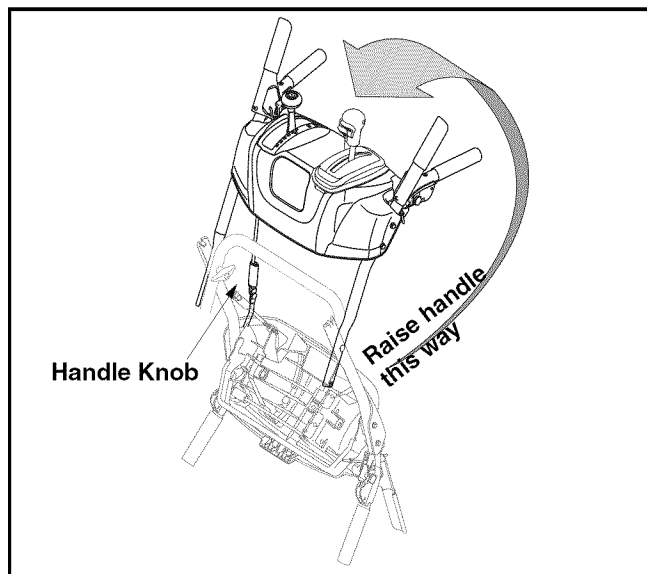

Figure 1
1. Raise the upper handle assembly in the direction shown in Figure 1. Align the upper handle with the lower handles.
2. Tighten two handle knobs firmly to secure the upper handle to the lower handles. See Figure 1.